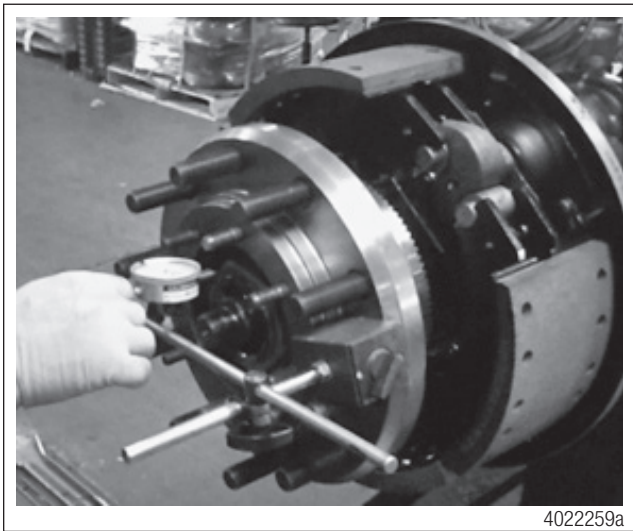

Figure 30
8. Check the end play with a dial indicator. The correct setting is 0.002"-0.004" (0.0508-0.1016 mm). If necessary, repeat the steps until the correct end play is achieved. Figure 30.